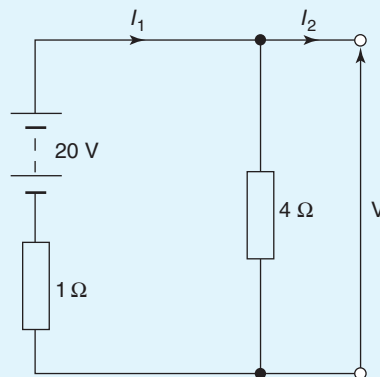

Figure 13.97
13. For the circuit shown in Fig. 13.97, voltage V is:
14. For the circuit shown in Fig. 13.97, current I_1 is:
15. For the circuit shown in Fig. 13.97, current I_2 is: